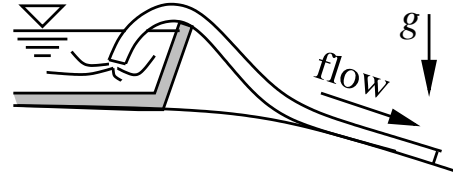

Figure 1: *Siphoning a pool.*
1. (10 pts) A smooth hose of inner diameter  $D$  drains a large-surface-area pool by *siphoning* (Fig. 1). The liquid density is  $\rho$  and its depth in the pool is  $d_l$ . The inlet of the hose is placed at  $d_i$  above the bottom of the pool, while the exit is at  $d_e$  below the bottom of the pool. If inviscid flow is assumed, determine the mass flow rate of this process in terms of the relevant  $d$ -values and gravity,  $g$ .